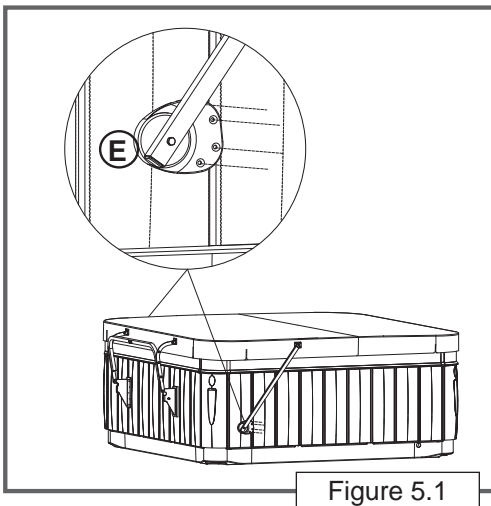

Figure 5.1
1. Position T1 or S1 Side Spacer against Pivot Bracket E, and insert two screws (L) from the back. Then position arm so rib of side spacer fits into appropriate groove, predrill 7/64" holes into the spa (Figure 5.1) with 1" max. depth. There are (4) holes per Pivot Bracket.
2. Position the Plastic Bottom (Pivot Bracket) (E) with the holes facing toward the middle of the spa (Figure 5.1).